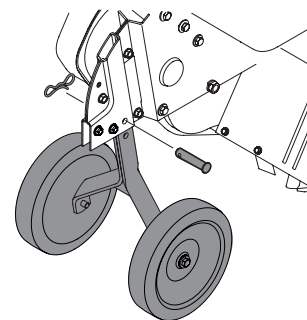

Figure 3
1. Remove the remaining clevis pin and cotter pin from the manual bag, install the wheel assembly into the chain case bracket as shown in Figure 3.